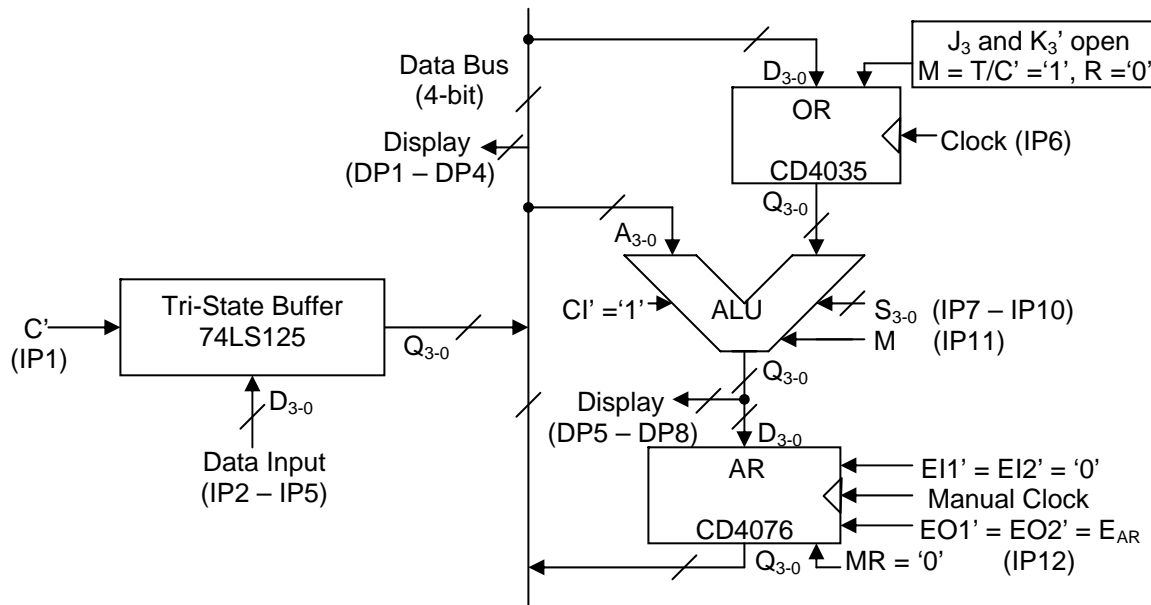

Fig. 8.1 Programmable ALU with Registers on a Bus
In this experiment, we will set up and study the simple bus-based digital system shown in Fig. 8.1, consisting of a 74LS181 ALU, two Registers (CD4035 and CD4076), and a Tri-State Buffer (74LS125).
- The exact allocations for the Input Switches and LED Displays have been given in Fig. 8.1.
- Assemble the TSB circuit on the left side of the vertical Data Bus shown in Fig. 8.1. Make $C' = 1$ and note that all the LEDs in DP1-DP4 are OFF, indicating that the bus is “floating”, i. e. not “driven” to a proper logic level by a digital output. Enable the TSB output by making $C' = 0$ and apply different data inputs through IP2-IP5 to verify that DP1-DP4 correctly display the applied input.